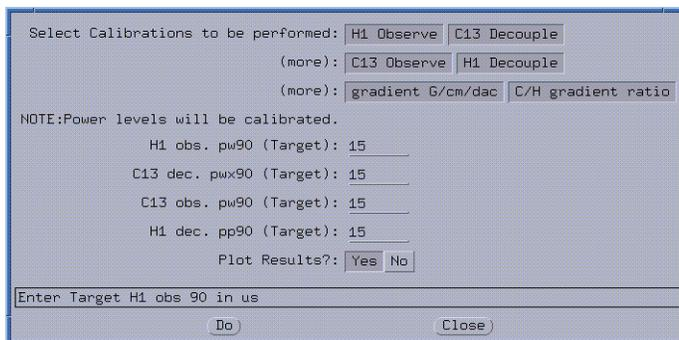

Figure 6. Acquisition Setup Window
8. Click the **Acquire** button to open the Acquisition Setup window, see Figure 6.